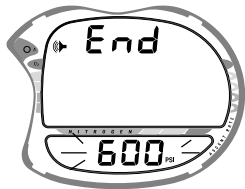

Fig. 33 - Set End Pressure Alarm
- The graphic **End** and Alarm (speaker) icon appear with the **End Pressure Alarm** value flashing (Fig. 33).